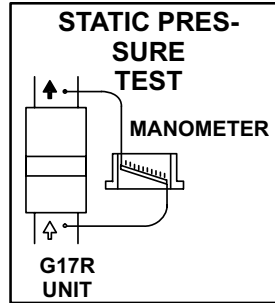

FIGURE 16
- Measure tap locations as shown in figure 16.